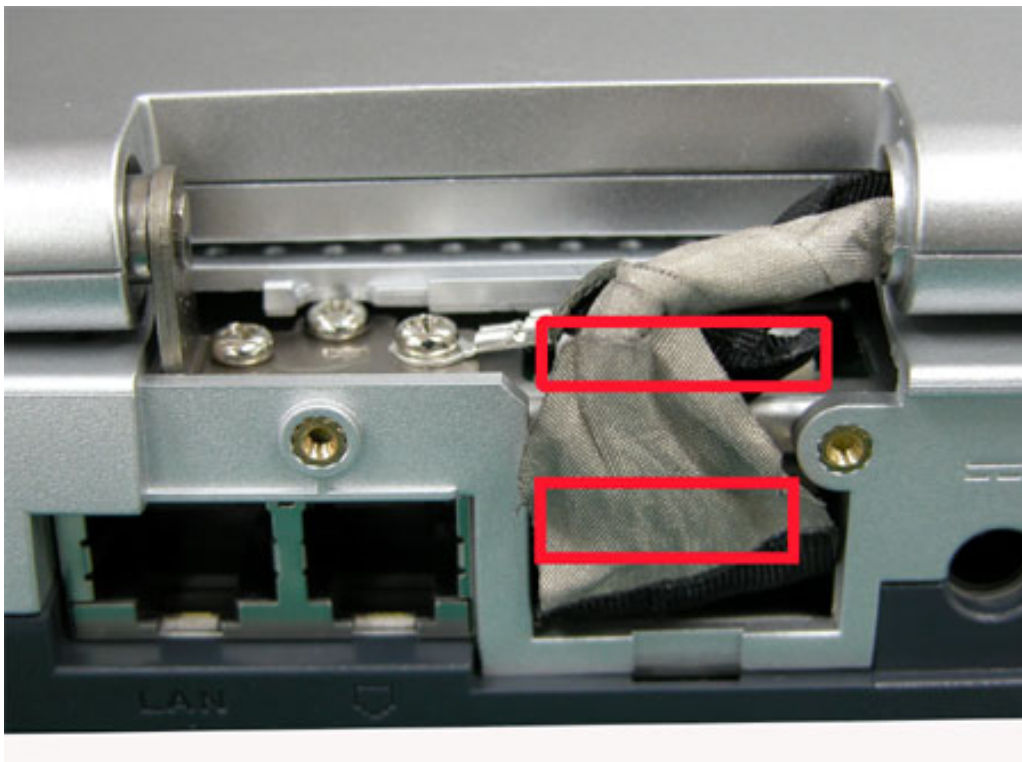

Fig. 27 Disconnecting LCD Cable
2. Disconnect LCD cable as shown in Fig. 27